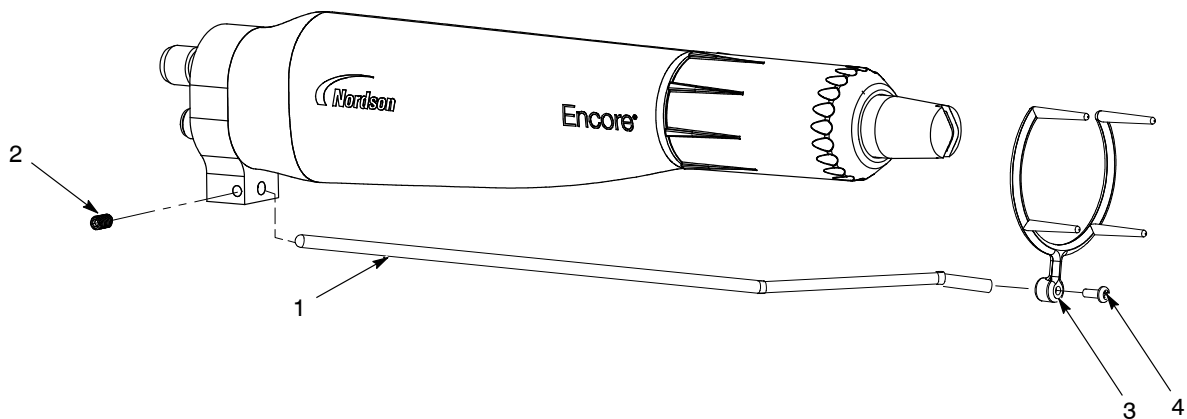

Figure 3-4 Ion Collector Installation - Bar-Mount Spray Gun
1. See Figure 3-4. Insert the collector rod (1) into the grounding plate and secure it with the M5 x 8 set screw (2) included in the ion collector kit.
2. Attach the multi-point tip (3) to the collector rod using the M3 x 8 screw (4).